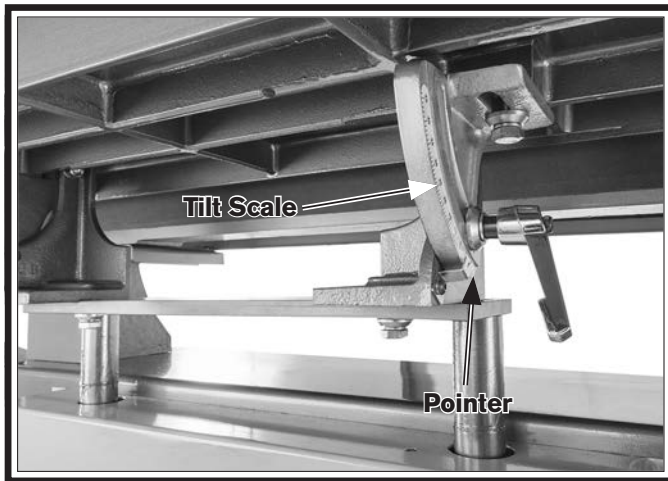

Figure 38. Main table tilt scale and pointer.
2. Tilt main table until pointer on tilt scale indicates desired angle (see **Figure 38**).